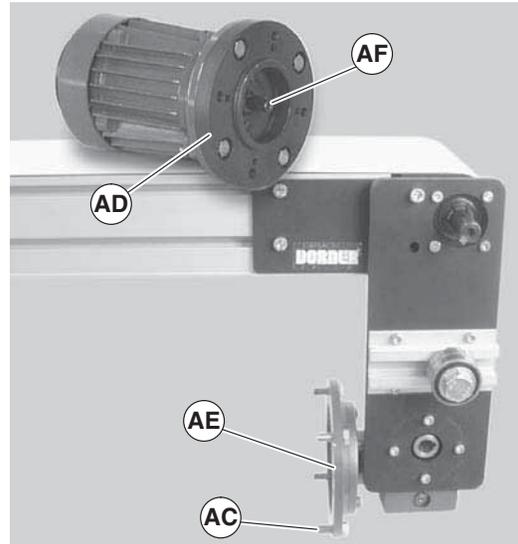

Figure 25
4. Remove four (4) screws (Figure 25, item AC). Detach motor (AD) from gear reducer (AE). Retain motor output shaft key (AF).